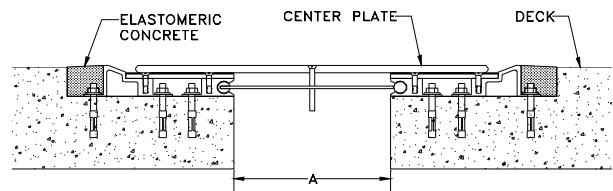

Figure 13
STEP 10. Immediately after placement of the Elastomeric Concrete, remove the tape and Kraft Paper from the joint cover and concrete (see Figure 13), and dispose of the used tape and paper properly. Clean